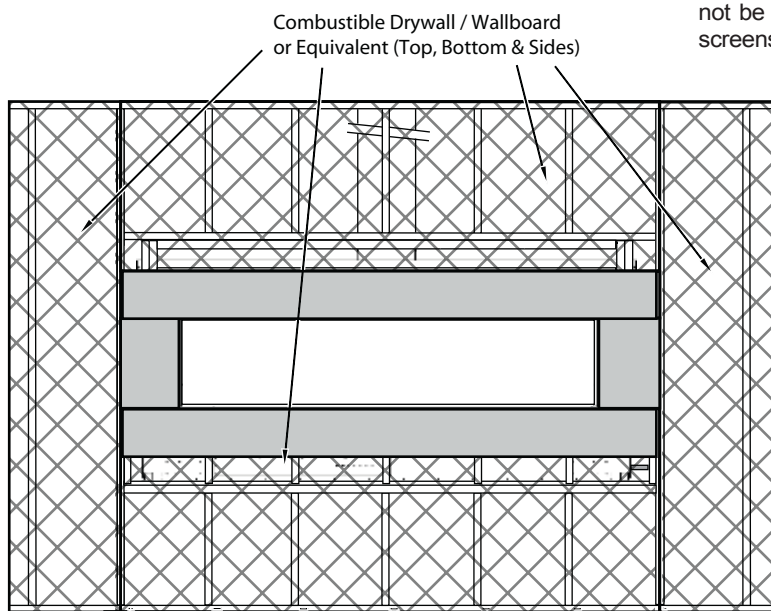

Figure 5 Sec.3 Fireplace installation (Cut the remainder of Drywall / Wall board to complete the fireplace surrounds) Both Sides Typical.
**Step 4.** As shown in Figure 5; Cut standard Drywall / Wall board to complete the installation of Both surrounds.